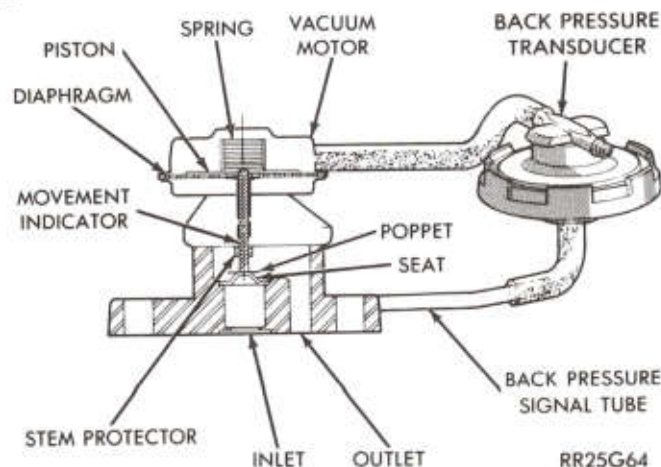

Fig. 5—EGR and Backpressure Transducer Assembly
(1) Engine should be warmed up, running at normal idle speed, and with parking brake on.
(2) Allow the engine to idle in neutral with the carburetor throttle closed, then quickly accelerate engine speed to approximately 2,000 RPM, watching carefully the groove (movement indicator) on the EGR valve stem. (Fig. 5)
(3) Movement of the valve stem during the period of acceleration should be visible by observing a change in relative location of the groove on the stem. This indicates that the control system is functioning correctly, and the EGR Gas Flow Test can then be performed.